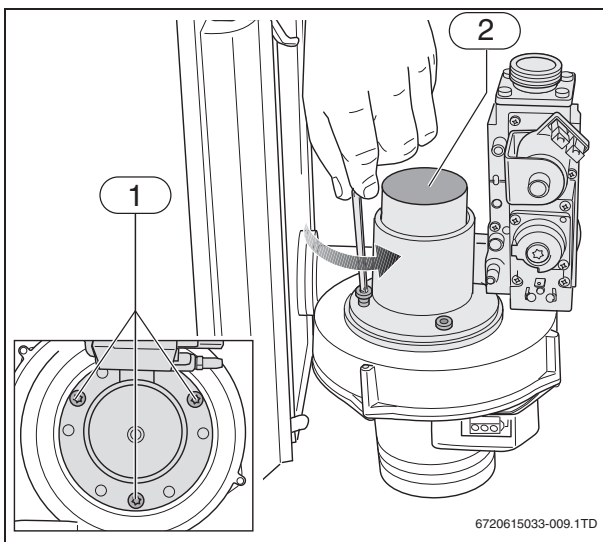

Fig. 8 Removing the screws and gas valve with venturi
- ▶ Undo the 3 screws (→ fig. 8, [1]) and remove the gas valve with the venturi from the fan unit (→ fig. 8, [2]).